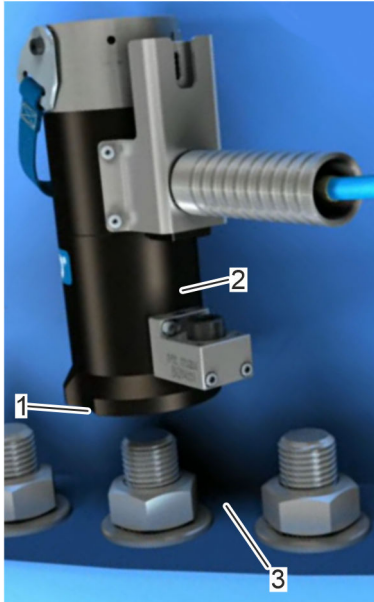

Fig. 36: Bracing
1. → Clean the resting surface (Fig. 36/3) and bolt.
2. → Position the hydraulic tensioner. Make sure that the resting surface (Fig. 36/3) is perpendicular to the bolt axis.